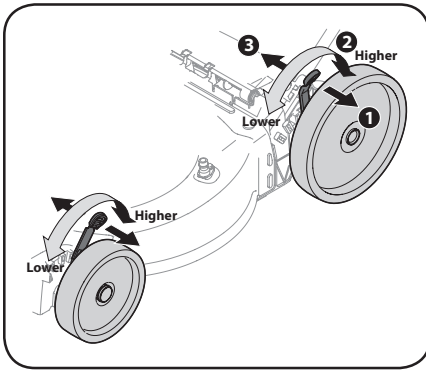

Figure 2-14
1. Pull the height adjustment lever towards wheel (unit will tend to fall when lever is moved outward). See Figure 2-14.